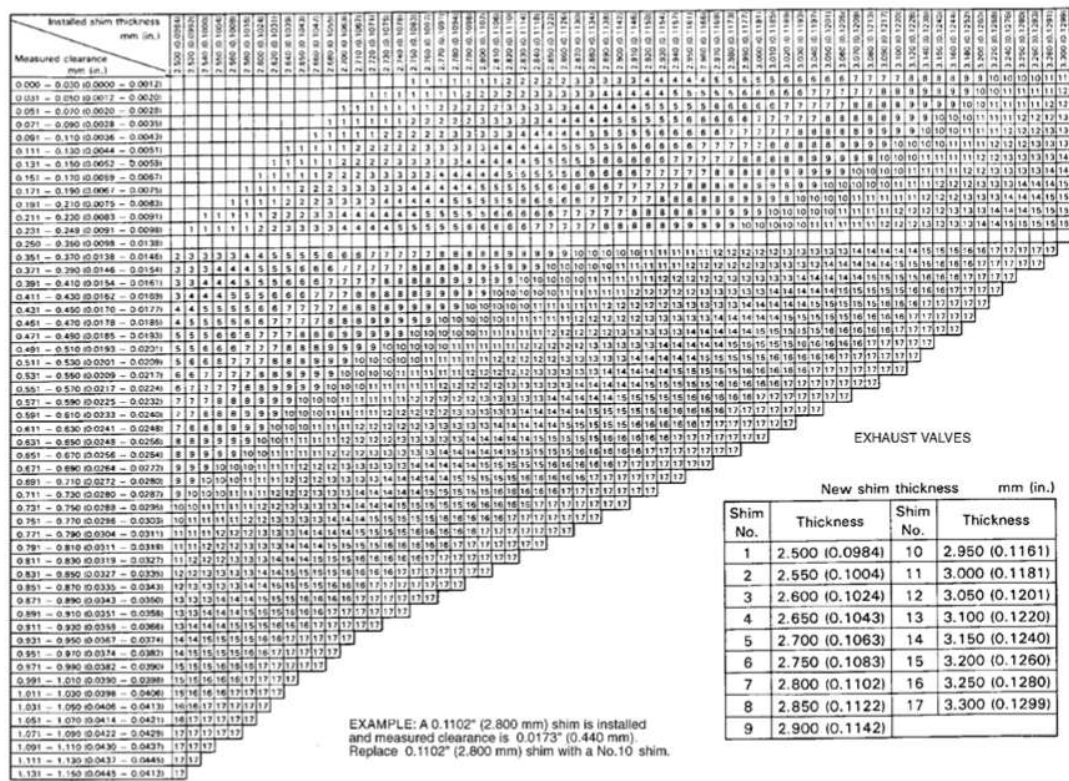

Fig. 32: Exhaust Valve Adjusting Shim Selection Chart (Tacoma)
10. Using small screwdriver and magnet, remove adjusting shim. Using micrometer, measure thickness of adjusting shim removed. Using thickness of used adjusting shim and measured clearance, determine correct thickness of adjusting shim to be used for proper valve by using the follow equation, or using adjusting shim selection charts. For intake valves, "N" (new adjusting shim thickness) = "T" (used adjusting shim thickness) + "A" (measured clearance) minus .0080" (.200 mm). For exhaust valves, "N" (new adjusting shim thickness) = "T" (used adjusting shim thickness) + "A" (measured clearance) minus .0120" (.300 mm). Adjusting shims are available in 17 sizes ranging from .0984" (2.500 mm) to .1299" (3.300 mm) in increments of .0020" (.050 mm). For adjusting shim selection charts, see **Fig. 31** and **Fig. 32** .